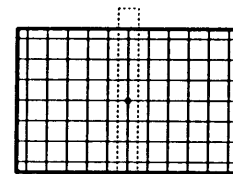

FIG. 7
17. Adjust RK40 (TILT) and RK44 (BOW) concentrating on the "center vertical line" and converge the blue line onto the green. See Fig. 7.